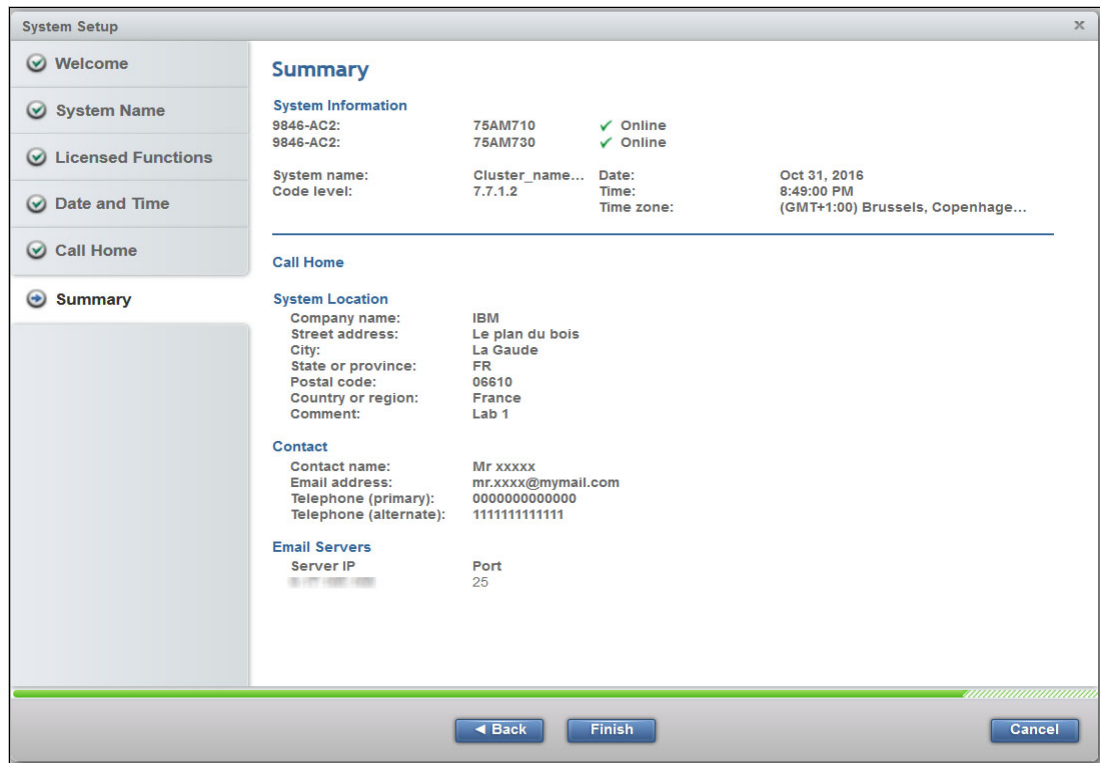

Figure 6-19 Summary of all changes
1. Figure 6-19 shows a summary of all data. Read the information carefully. You can click **Back** to correct data, or click **Next** to validate the data.